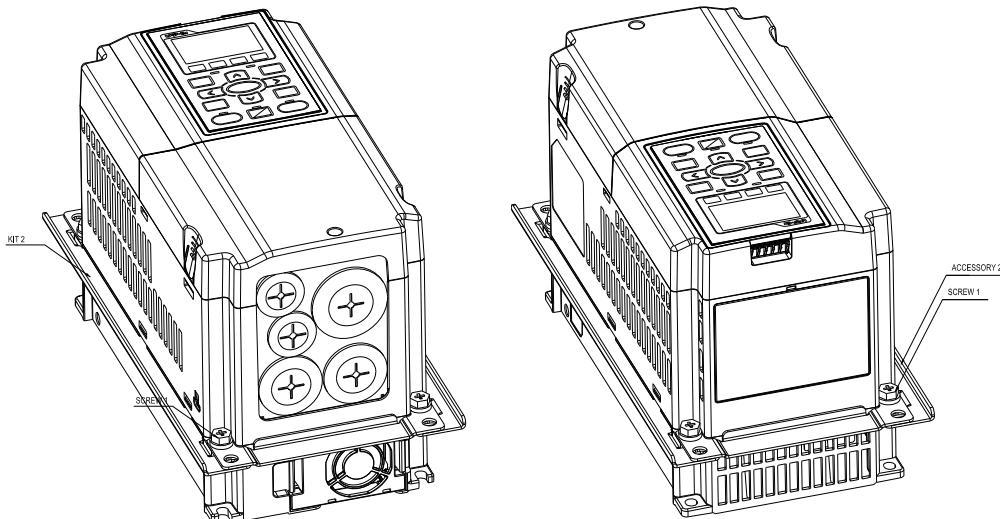

Figure 2
- Fasten screw*2(M6) and accessory 2 &3. Screw torque: 25~30kg-cm (21.7~26lb-in). (figure 2)